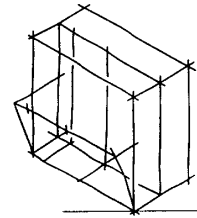

FIGURE 2.61 ■ Step 3, locate nonisometric line end points.
Step 3. Locate the starting and end points for the nonisometric lines. (See Figure 2.61.)